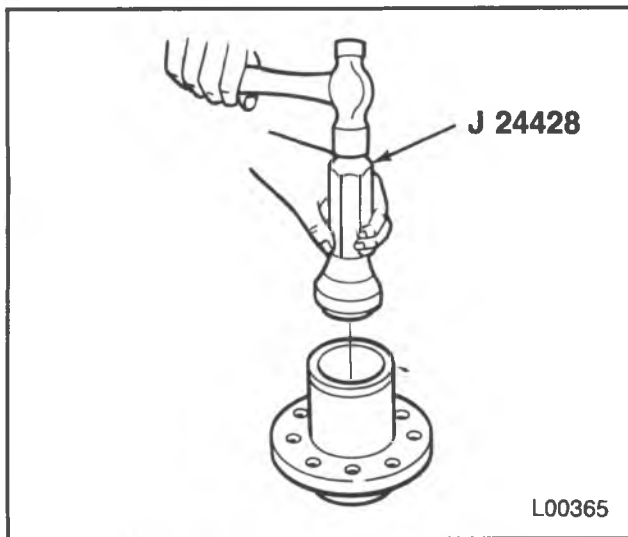

Figure 30 — Installing Oil Seal into Hub
- New oil seal using J 24428 (figure 30).